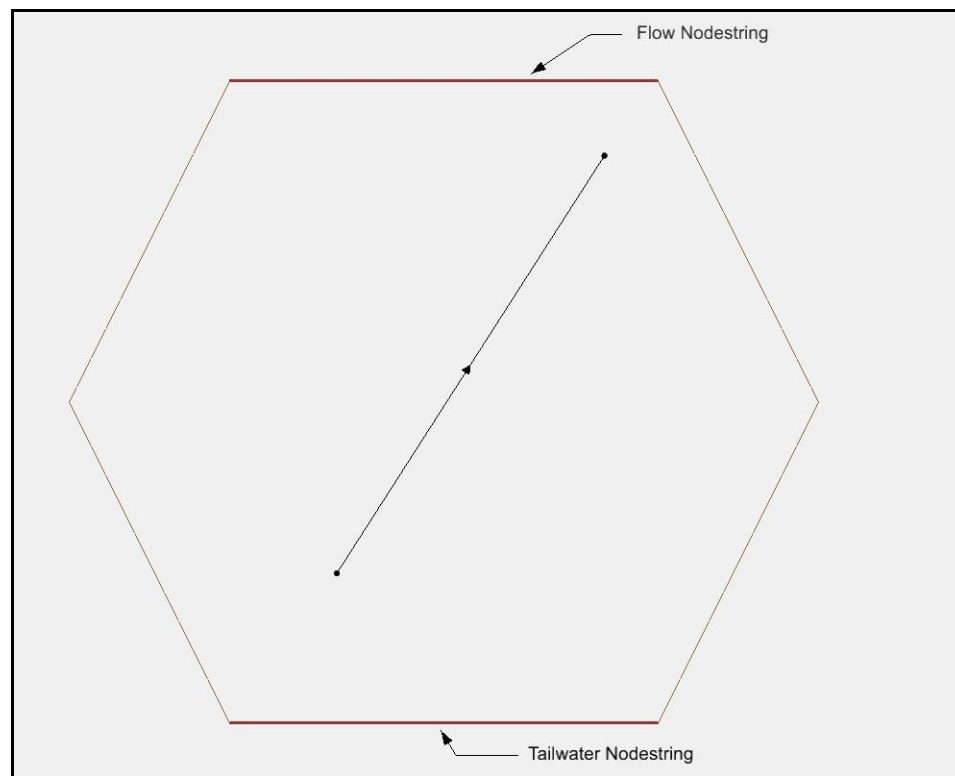

Figure 2 Boundary nodestring locations
An inlet and an outlet to the lake need to be created. The water flowing past is another way to see the effects of the boat. A constant flowrate and water surface elevation will be used throughout this simulation. Two nodestrings will be created: one for flowrate and one for tailwater (water surface elevation), as shown in Figure 2.
3. Hold down the *Shift* key and double-click on the upper-right corner of the mesh, creating a nodestring across the top edge of the hexagon (labeled “Flow Nodestring” in Figure 2).